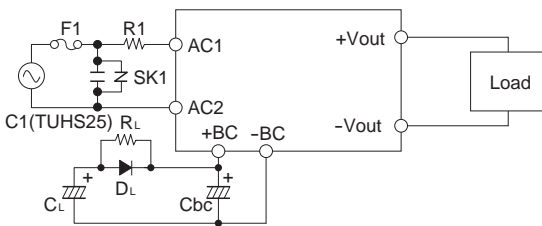

Fig.5.5 Long hold-up time connection
- It is possible that setting the hold-up time of the power supply for a long time by connecting like fig 5.5. Please set the charge current of the CL to become less than 1A. Please use the diode which reverse voltage is 600V or more. Please contact us for detail.